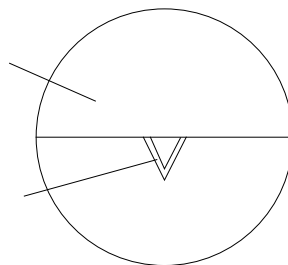

Figure 2-17. End of a cantilever chip showing the cantilever, as seen through the optical view.
4. Adjust the coarse focus to move the objective lens up or down using the large focusing knob on the end of the swing arm. Monitor the focus adjustment by looking at the video monitor. You should see the end of the cantilever chip with a triangularly-shaped cantilever in the center of the optical view, as shown in Figure 2-17.